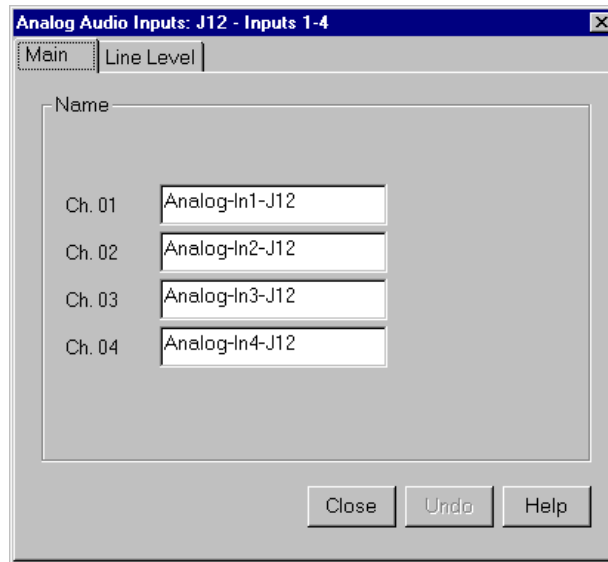

Figure 31. Analog Audio Input dialog box, Main tab
1. Expand **Audio Input**, and then click one of the Analog Channels. The Analog Audio Input dialog box appears (Figure 31). The channel numbers on the left refer to the physical input connectors on the audio input box. **Ch. 01** refers to the first connector, and **Ch. 02** refers to the second connector, and so forth.